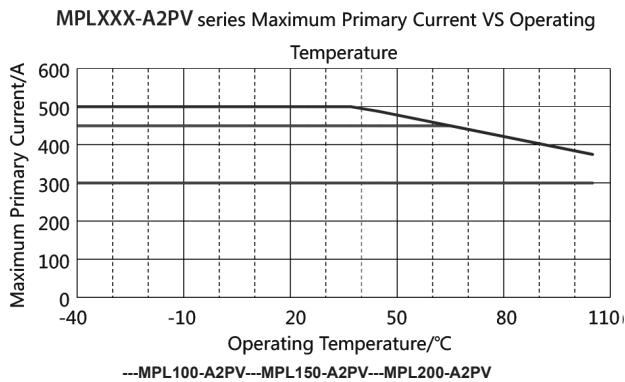

FIG.3
4. FIG. 3: With the increase of operating temperature, the maximum operating current of MPLxxx-A2PV series which can maintain stable linear output gradually decreases.